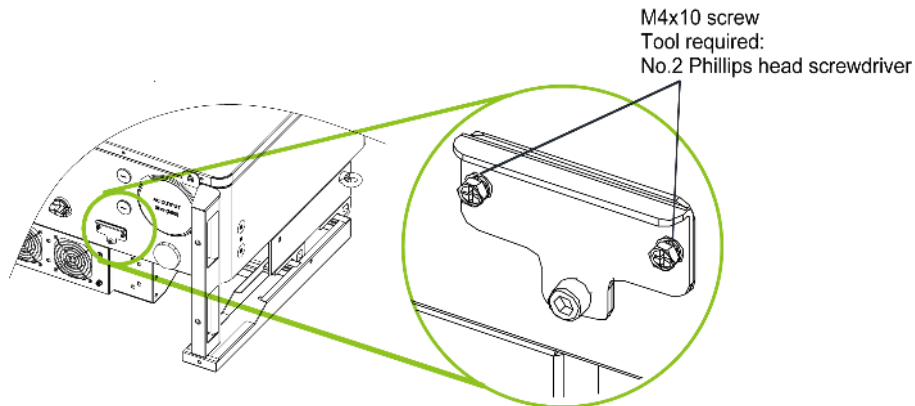

Figure 4-15 Expose the Connector
1. Remove the two M4x10 fixing screws on the DB9 connector cover as shown in Figure 4-15: